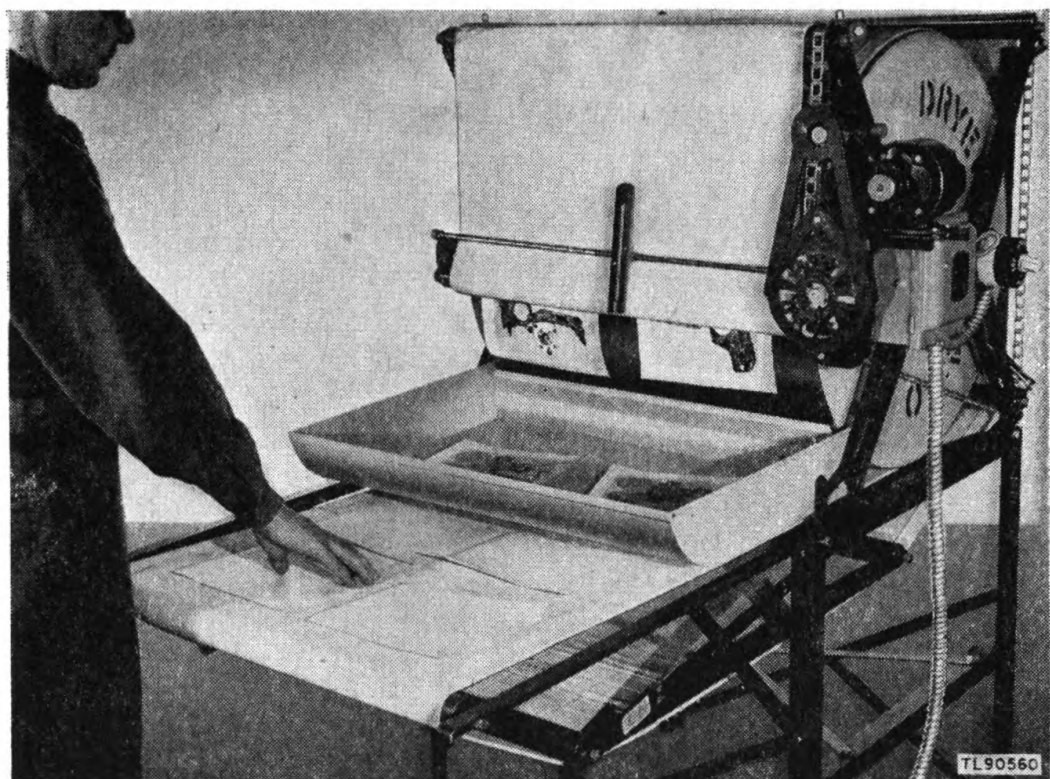

Figure 8. Dryer PH-176 in operation.
**f. Feeding Table.** The front portion of the apron, which runs over a feeding table roller, forms the feeding table, on which prints are placed to be carried to the drum. The feeding table arms which extend forward from the legs of the base carry the roller (fig. 8).
**b.** Wash prints sufficiently before drying them. Improperly washed prints contain chemicals which will rot and stain the apron. When prints have been washed and are ready for drying, *drain the surplus water from them*, and place them *face down* on the feeding table portion of the apron (fig. 8). Lay the print on the apron;